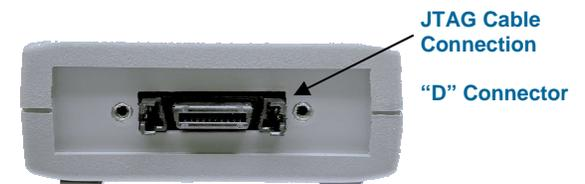

FIGURE 2—JTAG End Plate
4. If not already connected, attach the JTAG cable assembly to the corresponding "D" connector of the LAN560 (see figure 2).